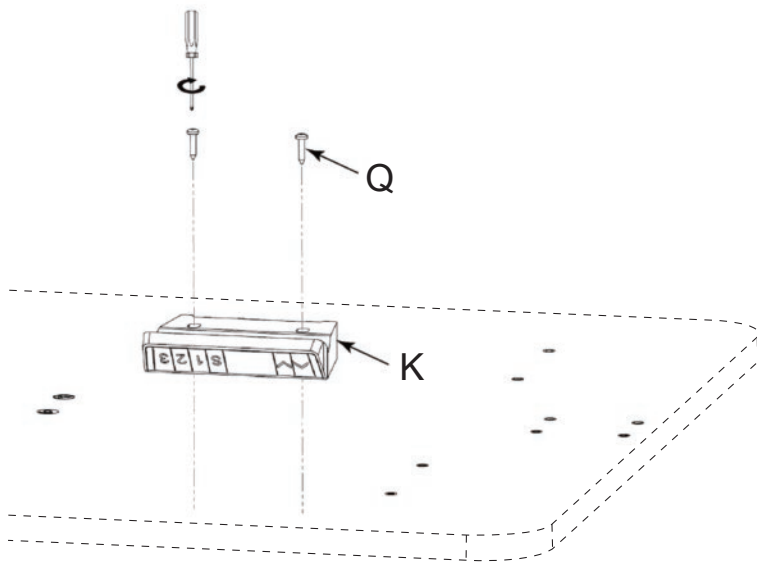

Fig.6
Step 5: Install controller. (See Fig.6, Fig.7)